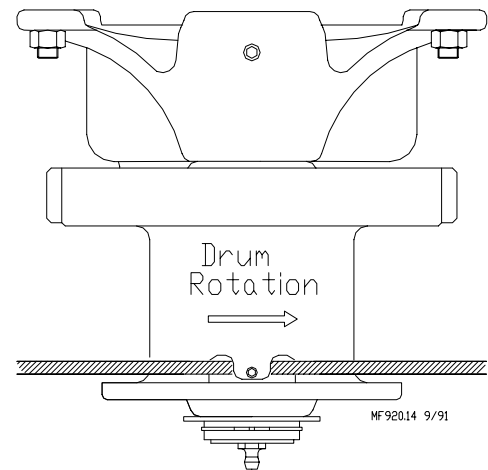

Figure 10. (End View)
4. Wrap the cable through the winch drum relief located near the bottom of the drum. Tighten the set screw to anchor the cable to the drum. See **Figure 10**.